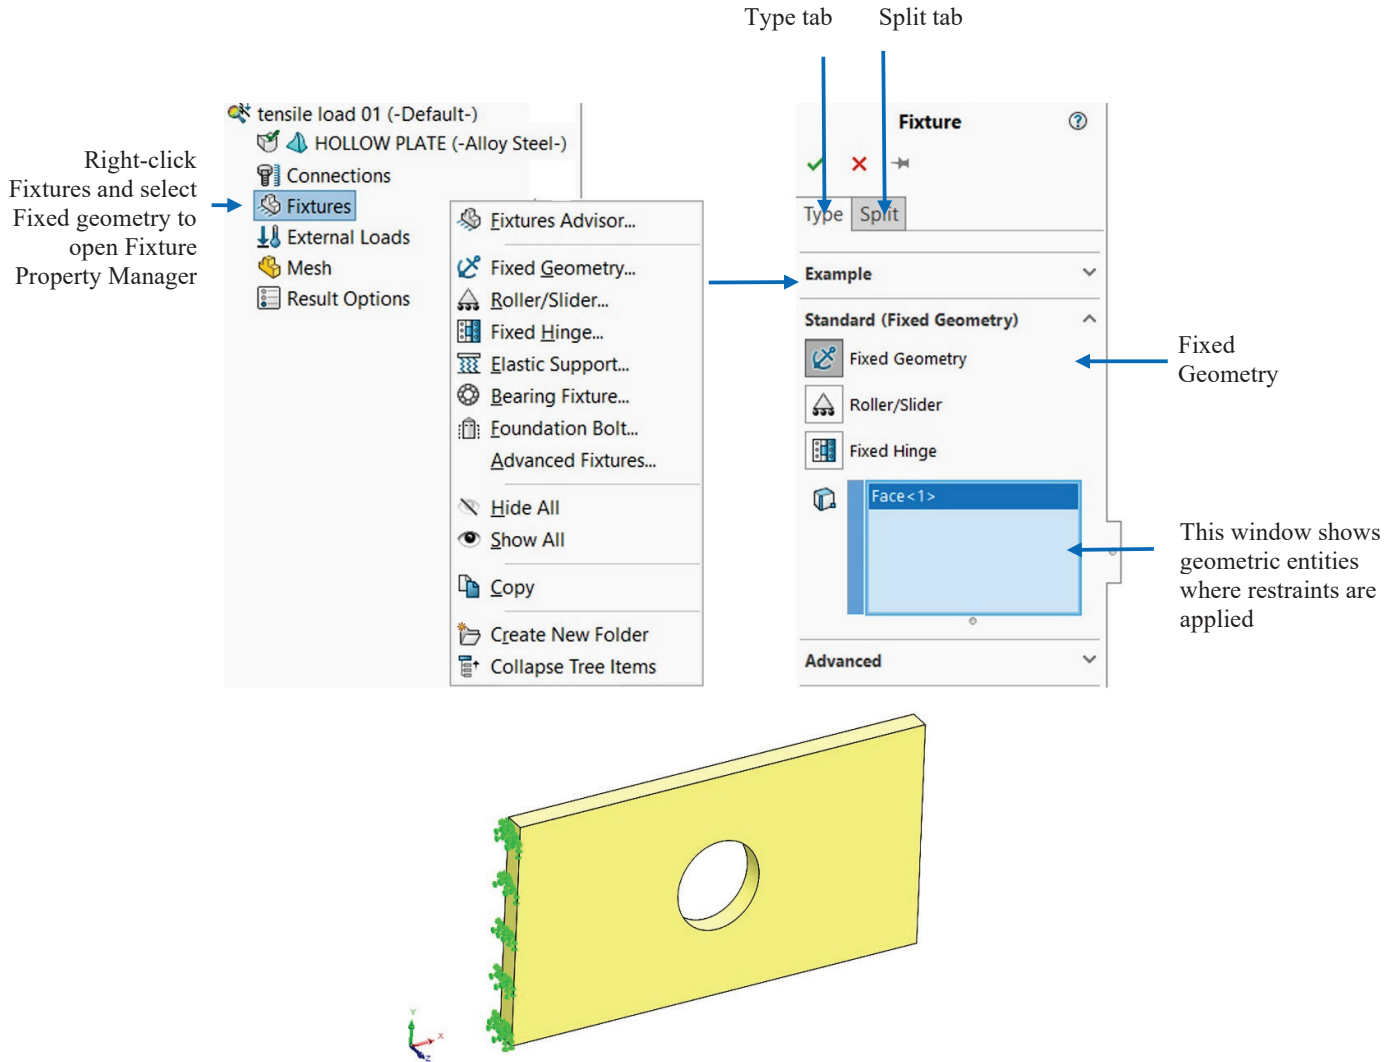

Figure 2-10: Pop-up menu for the Fixtures folder and Fixture definition window (Fixture Property Manager).
Having assigned the material, we now move to defining the restraints. To display the pop-up menu that lists the options available for defining restraints, right-click the *Fixtures* folder in the *tensile load 01* study (Figure 2-10).
The existence of restraints is indicated by symbols shown in Figure 2-10. In the **Symbol** Settings of the Fixture window, the size of the symbol can be changed. Note that symbols shown in Figure 2-10 are distributed over the highlighted face meaning the entire face has been restrained. Each symbol consists of three orthogonal arrows symbolizing directions where translations have been restrained. Each arrow has a disk symbolizing that rotations have also been restrained. The symbol implies that all six degrees of freedom (three translations and three rotations) have been restrained. However, the element type we will use to mesh this model (second order solid tetrahedral element) has only translational degrees of freedom. Rotational degrees of freedom can't be restrained because they don't exist in this type of element. Therefore, disks symbolizing restrained rotations are irrelevant in our model. Please see the following table for more explanations.
- Right-click *Fixtures* folder and select **Hide All** or **Show All** in the pop-up menu shown in Figure 2-10